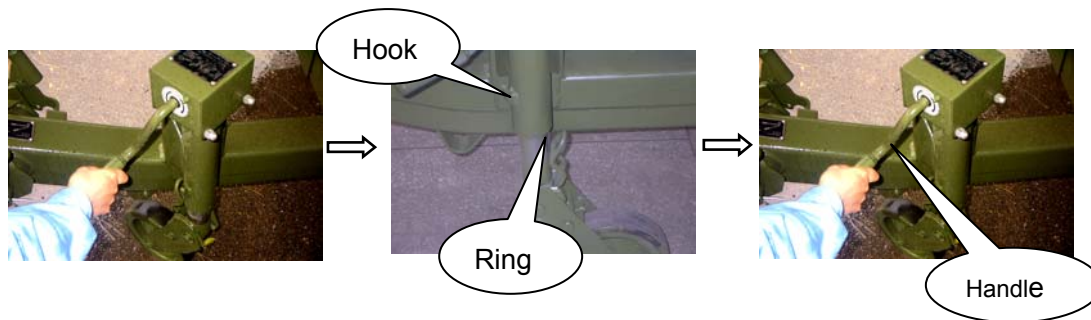

Fig. 2.1-1
- 1) Lower the front pilot wheel (see Fig. 2.1-1).